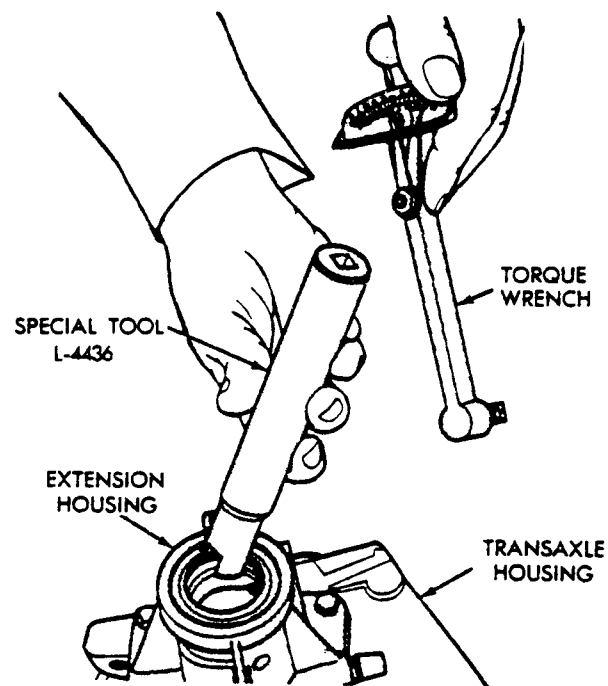

FIGURE 12
- Using special Tool L-4436 and an inch-pound torque wrench, check the turning torque of the differential, reference Figure 12. The turning torque should be between 5 and 18 inch-pounds.